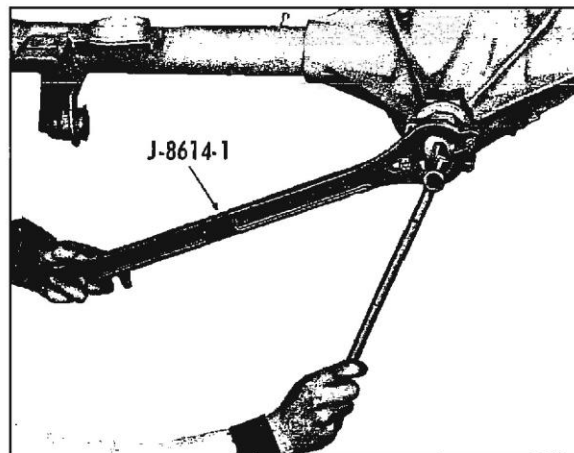

Fig. 4-30 Removing Pinion Nut
2. Install holder J-8614-1 on pinion flange by using two $5/16''$ bolts with flat washers. Remove pinion nut and washer (Fig. 4-30).